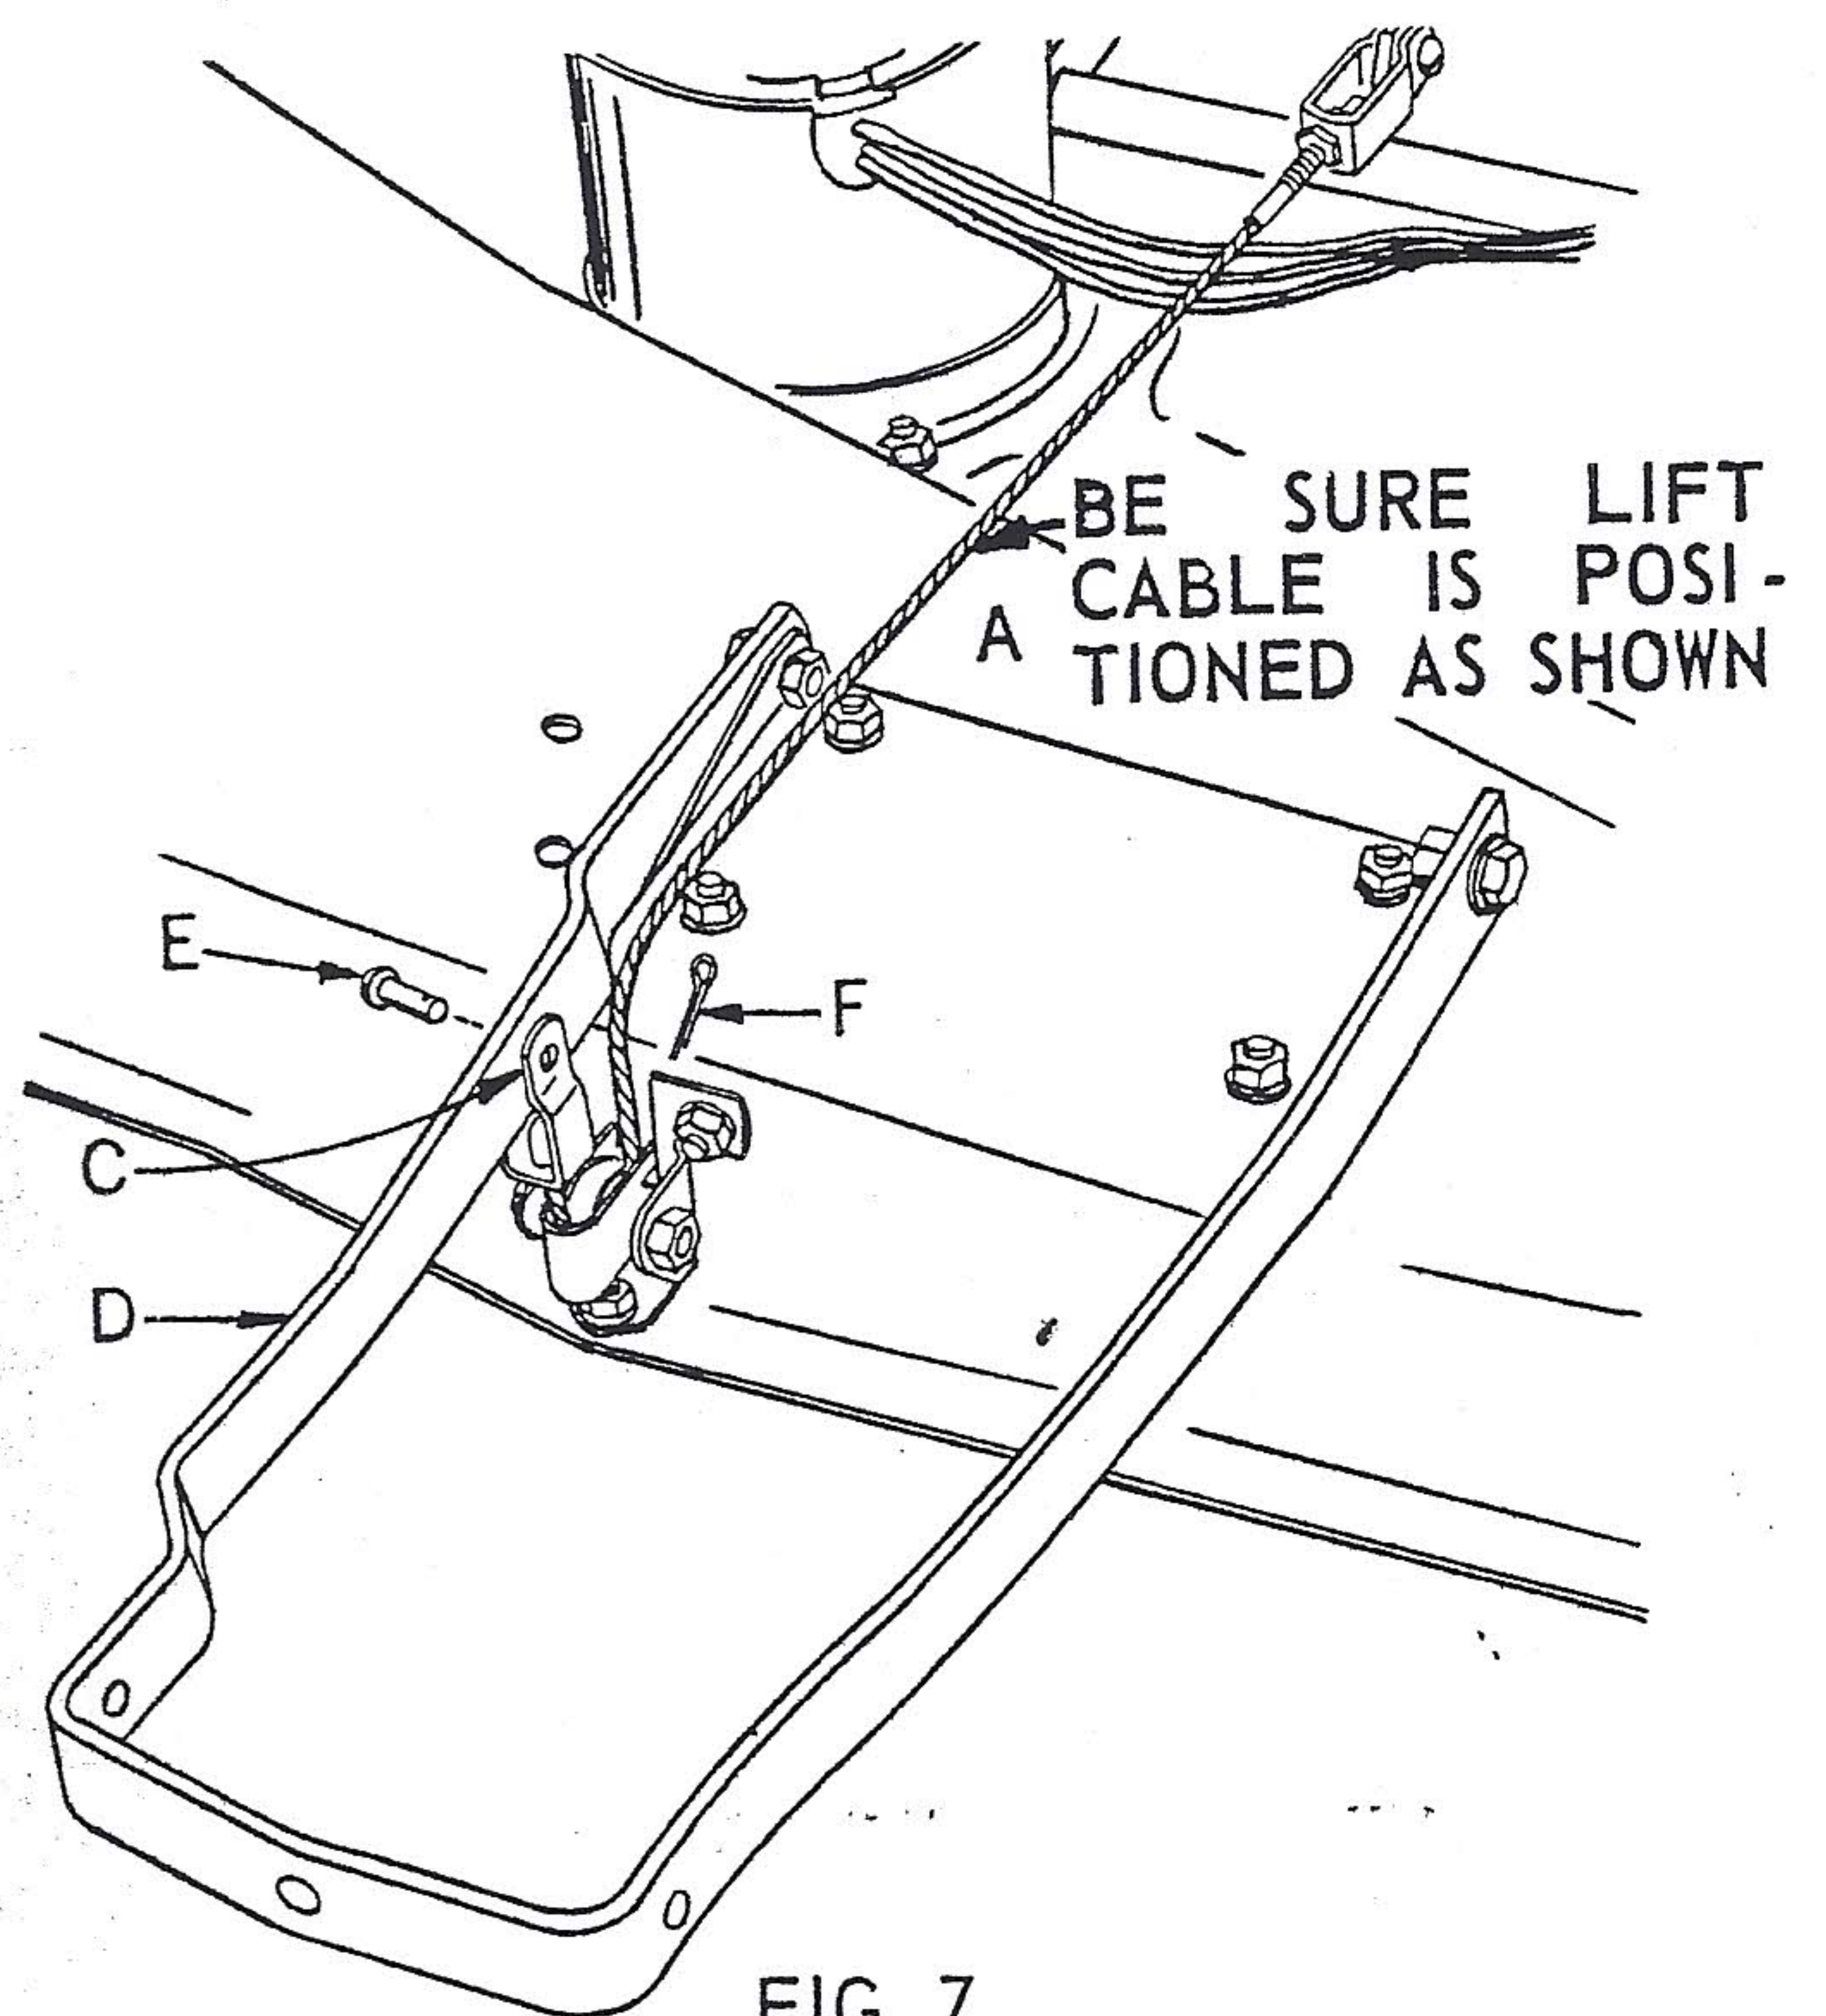

FIG. 7
| 1 - Cotter pin 3/32 x 3/4 (F, Fig. 7) | 1 - Rivet pin 3/4" long (E, Fig. 7) |
2. Place tractor and mower on level surface. Depress lever plunger (A) and position lever (B) in center notch of lever quadrant (C).
3. NOTE: Lift cable (Fig. 7) is preset at the factory and should not be adjusted. However, if dimension is accidentally changed, the correct length is $25\frac{1}{2}$ " from center of hole in yoke to center of hole in the other yoke.
5. Remove retainer spring and flat washer (D) from the low side. Remove rear hanger adjusting screw (E) from the lift shaft weldment (F).
6. Loosen locknut (G) on rear hanger adjusting screw (E), and turn rear hanger adjusting nut (H) farther on adjusting screw (E). Each complete turn is approximately $1/16$ ". Replace rear hanger adjusting screw (E) in lift shaft weldment (F).
7. Recheck rear tip height of both mower blades. If blades are same height, tighten locknut (G) on rear hanger adjusting screw (E). If not, blade is bent or mower housing is warped. Replace or contact Sears.